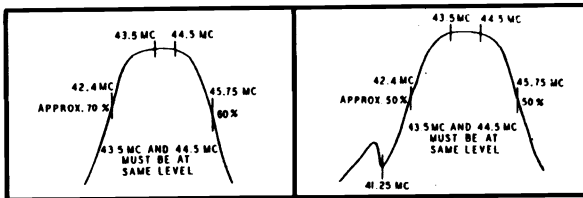

Fig. 5-Response from 1st Pix IF Grid
2. With approximately -5.5V bias on AGC line T.P. "C" (junction of R-208 and C-211) connect sweeper to 1st I-F grid (Pin #1-V3). Reduce sweeper output to compensate for additional gain on 1st stage (4.0V. P-P on oscilloscope). Adjust 1st I-F transformer primary (top) and secondary (bottom) for maximum gain and symmetry with 45.75 mc marker. (See Figure 5.)